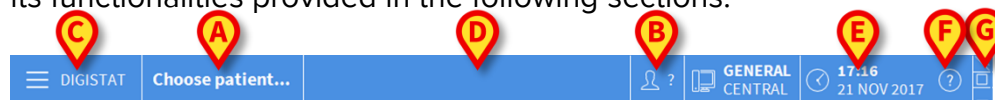
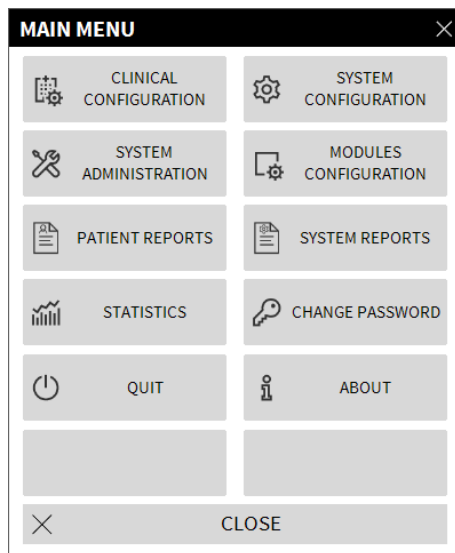
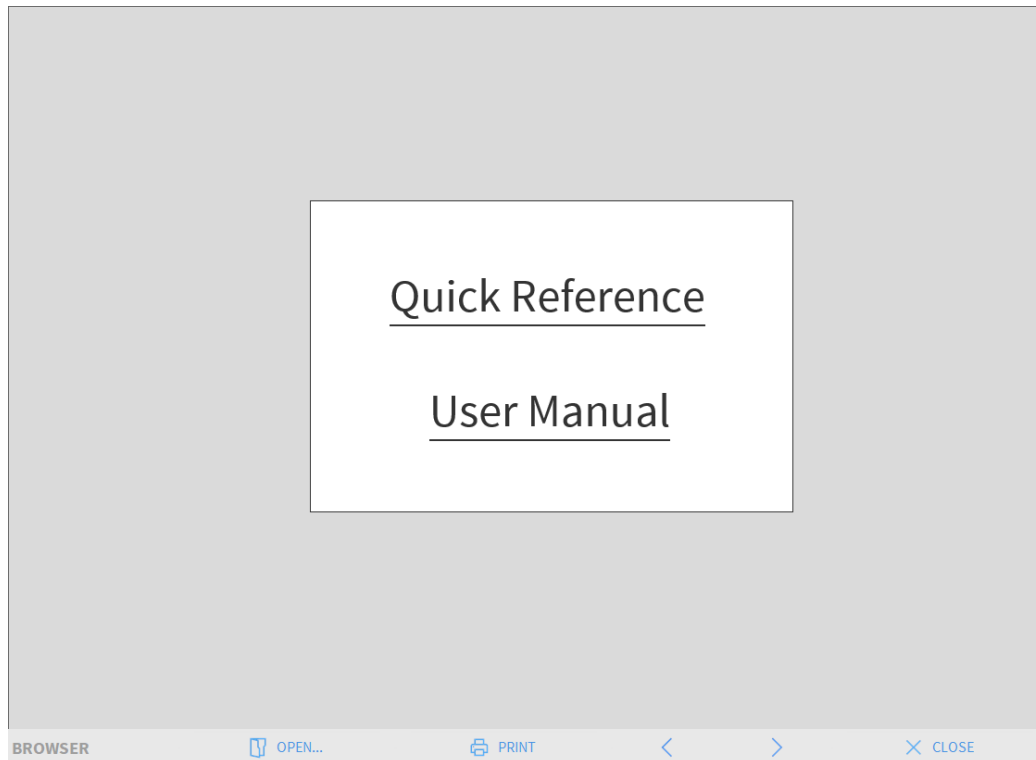

Fig 13
Fig 14
Fig 19
- The **Patient** button (Fig 13 **A**) will contain, after a patient has been selected, the patient's name and, if the patient has been admitted, their bed number.
- The **User** button (Fig 13 **B**) shows the name of the user connected.
- Use the **Menu** button (Fig 13 **C**) to open the following window (Fig 14).
- The button indicated in Fig 13 **D** is used by the Product to signal that there are notifications for the user.
- Date - time indication (Fig 13 **E**).
- Use the Help button (Fig 13 **F**) to access the online documentation available.
- The small buttons highlighted in Fig 13 **G** can be used to:
Click the **Help** button on Control Bar (Fig 13 **F**) to access the online documentation available. The screen shown in Fig 19, or similar, depending on the available documentation, will open.